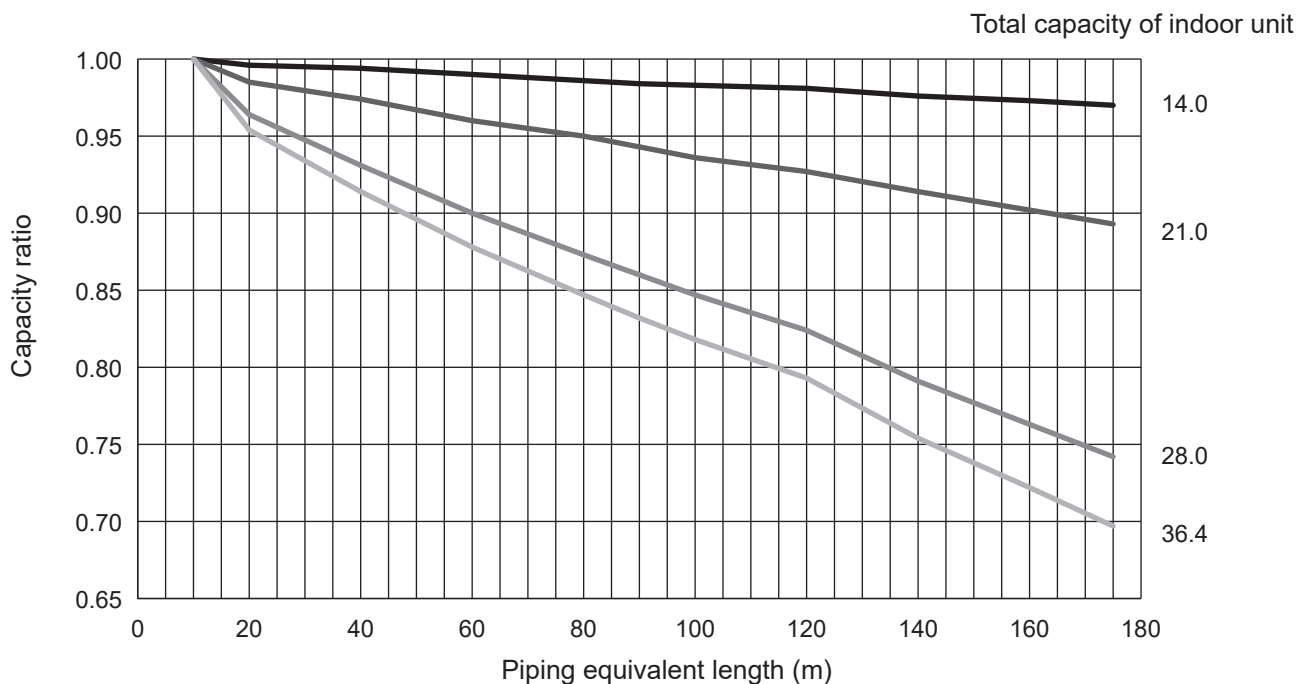

Figure 12 PUMY-P250YBM
- During heating, find the equivalent piping length, and find the capacity ratio corresponding to standard piping length from Figure 12. Then multiply by the heating capacity from Figure 9 and 10 in "4-2. CORRECTION BY TEMPERATURE" to obtain the actual capacity.
(1) Capacity Correction Curve